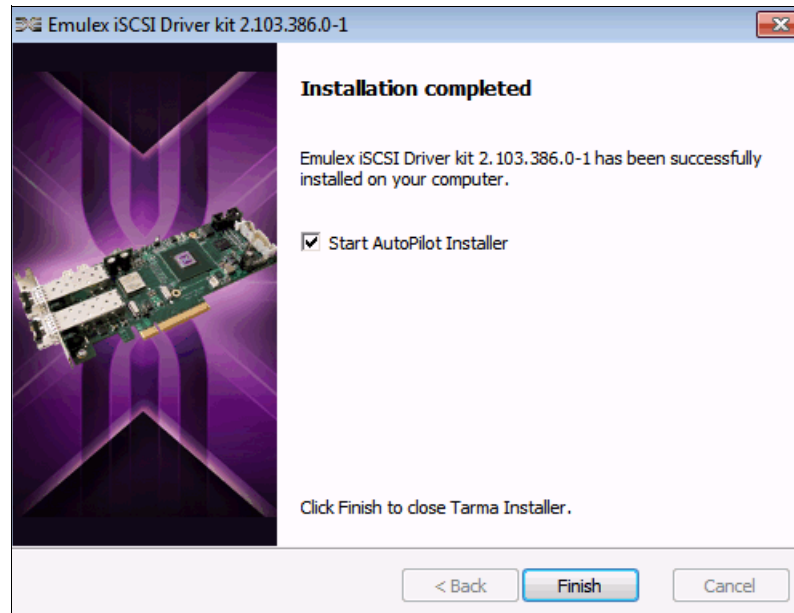

Figure 7-20 Emulex iSCSI installation completed
4. When you see the Installation completed panel (Figure 7-20), click **Finish**.